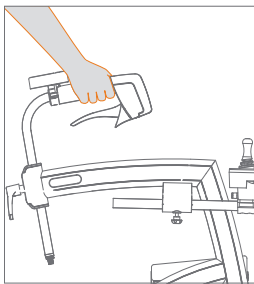

Figure 65: Driving.
- a. While walking, keep the fingers loosely around the foam handgrips (**Figure 65**). You can also keep them around the brake handles, with your thumb on the inside of the handle.